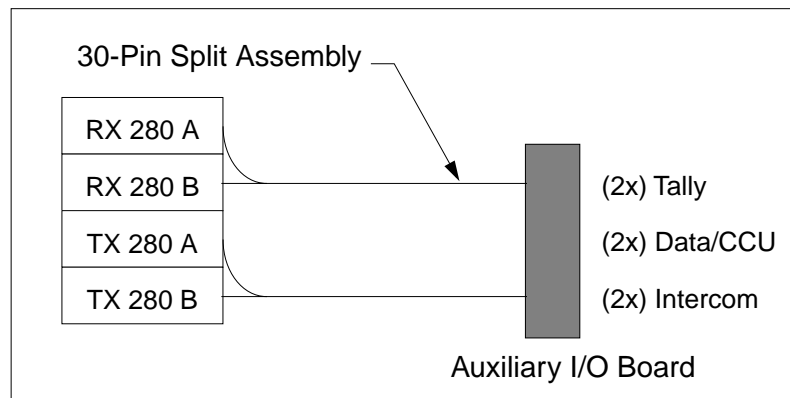

Figure 47. Split Signal Hardware Requirements
The two TX/RX 280 module sets interface with the auxiliary I/O board via the ribbon cables: The ribbon cable has two 30-pin headers to jumper both TX 280s to the TX port of the auxiliary I/O board and the same for both RX 280s. Refer to Figure 47.
* Note: For split-AUX operation, the Sidewinder would need to be in the "A" location. Refer to Figure 47.